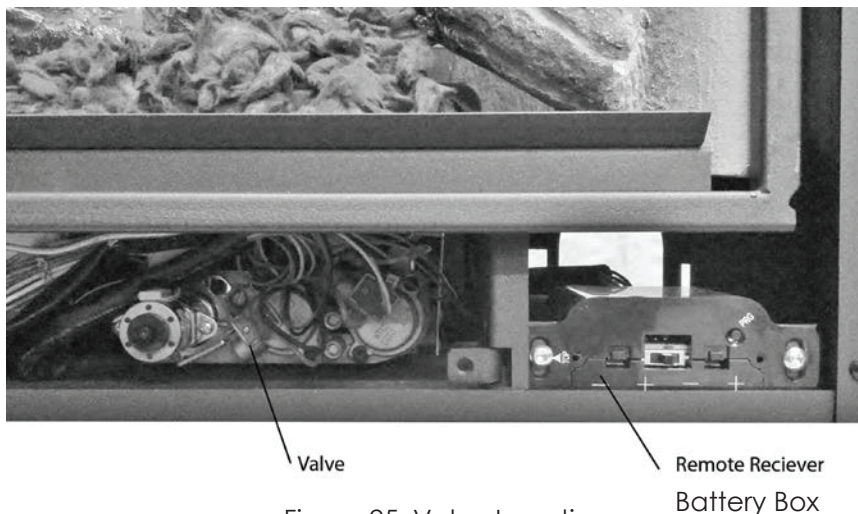
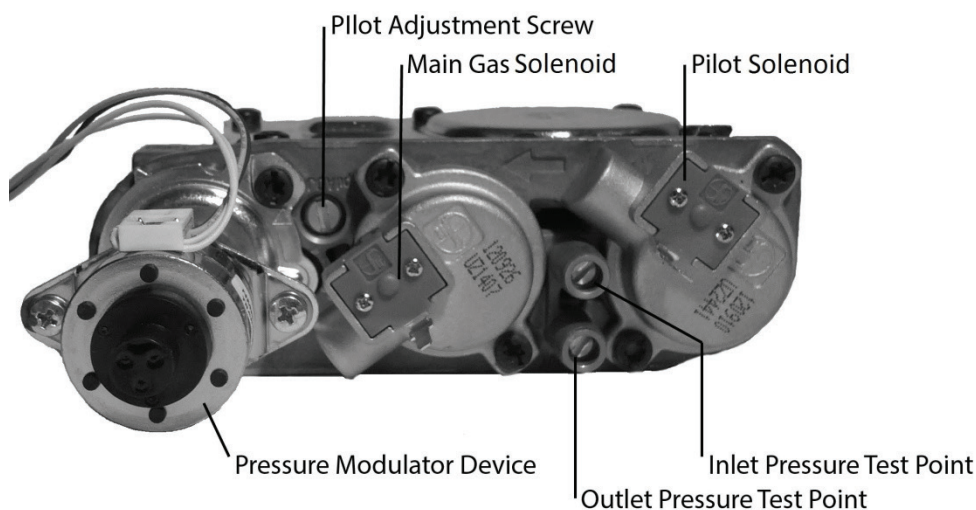

Figure 25: Valve Location
Figure 26: Valve
1. Remove door (Fig. 25) and locate the valve as seen in Figure 26
The pilot flame level can be adjusted by turning the adjustment screw, using a flat-tip screwdriver, seen on the valve in Figure 26.